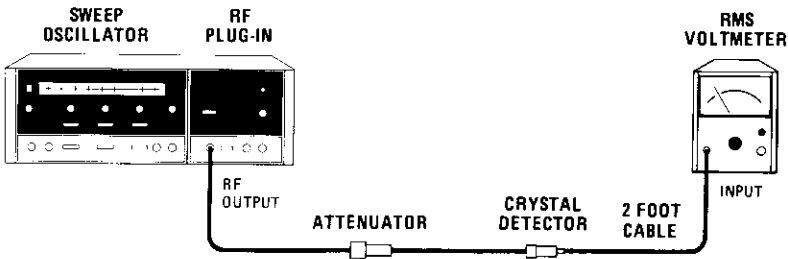

Figure 4-13. Residual AM Test Setup
- d. Disconnect power meter/thermistor mount from 20 dB attenuator and connect RMS voltmeter to 20 dB attenuator using a crystal detector and 2-foot BNC cable as shown in Figure 4-13. Note reading on RMS voltmeter.